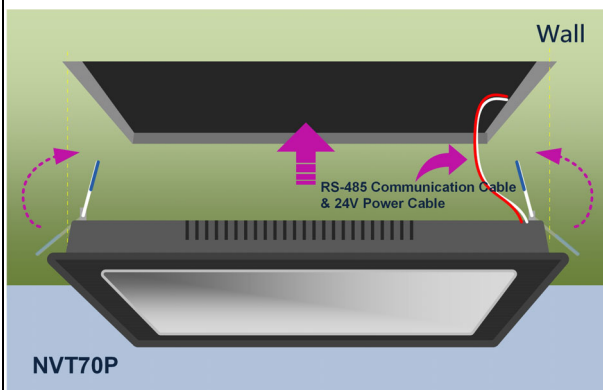

Fig. 1 Recessed Light Installation Schematic
- When installing according to (Fig.1), first pull up one side of the spring clip and put it into the wall, then pull up the other side and put it into the wall, then the panel will be close to the wall.